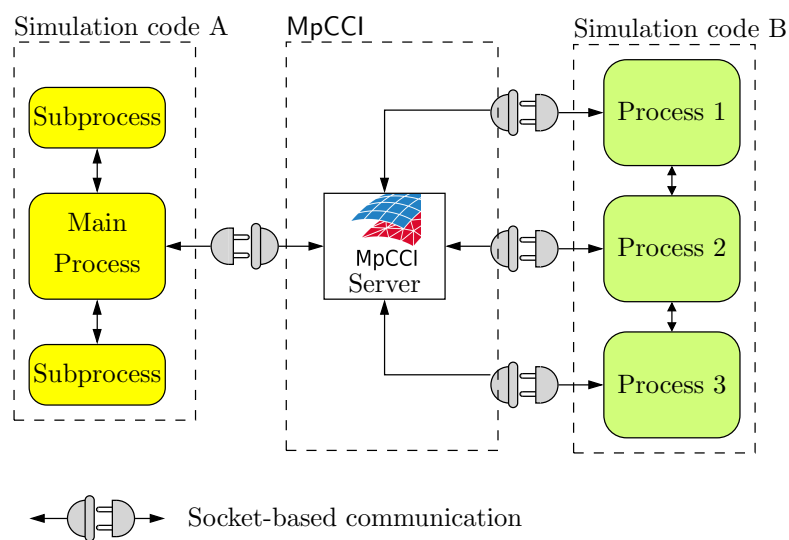

Figure 27: Client-server structure of MpCCI
If codes are coupled without parallel execution, one server is started for communication with each simulation code, see Figure 27 a\).
- All data which is exchanged with the simulation code is passed via a main process. This is depicted in Figure 27 b\) on the left.
- Each subprocess of a simulation code communicates with the MpCCI server as shown in Figure 27 b\) on the right.
In the example sketched in Figure 27 a\) only one port is used for getting the incoming client connection:
For the parallel run of Figure 27 b\) only one port is needed: